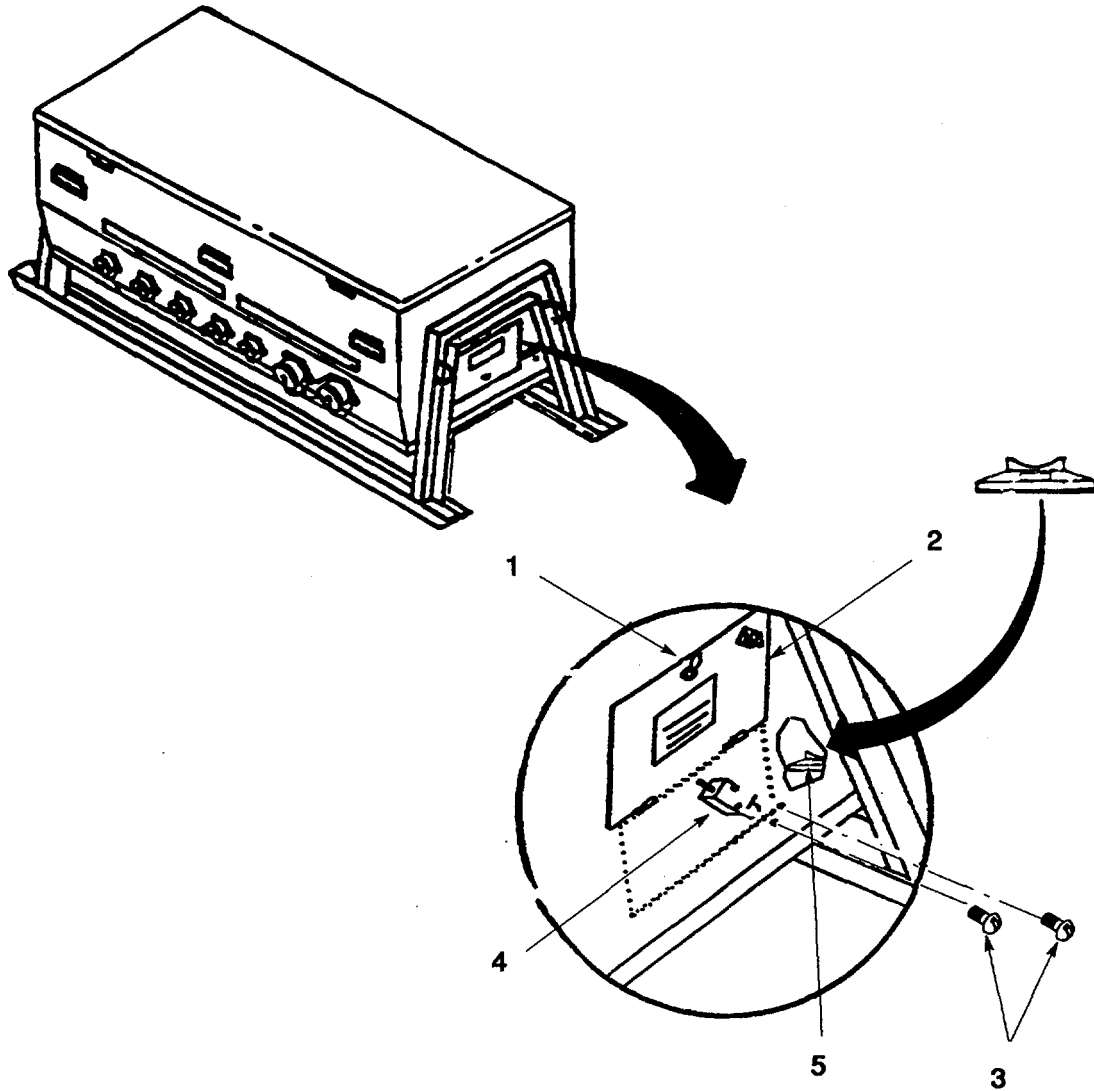

Figure 4-11. Interlock Solenoid.
- a. Unlock latch (1, Figure 4-11) and remove access door (2) by sliding off of hinge.
- f. Remove two screws (3) and solenoid (4).